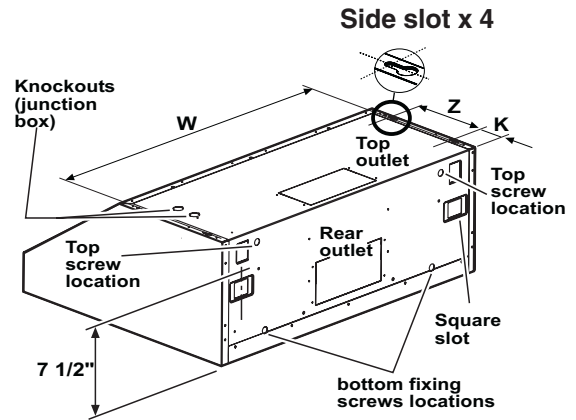

Figure 6a
4. After the hood installation height has been determined draw a horizontal line at a distance above the cooktop equal to the desired hood installation height plus 7- 1/2". See also Figure 6a.